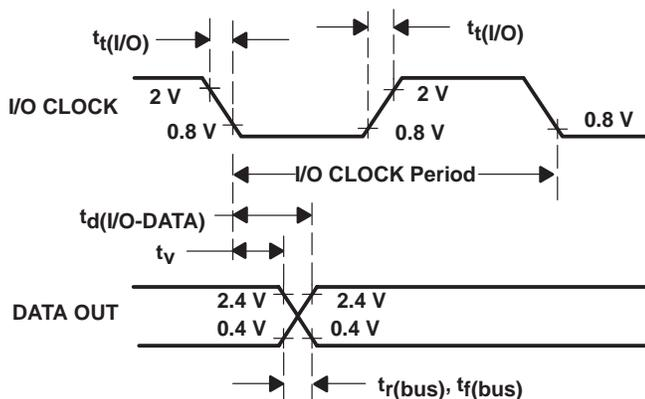

Figure 7. I/O CLOCK and DATA OUT Voltage Waveforms
10. I/O CLOCK period = 1/(I/O CLOCK frequency) (see Figure 7).